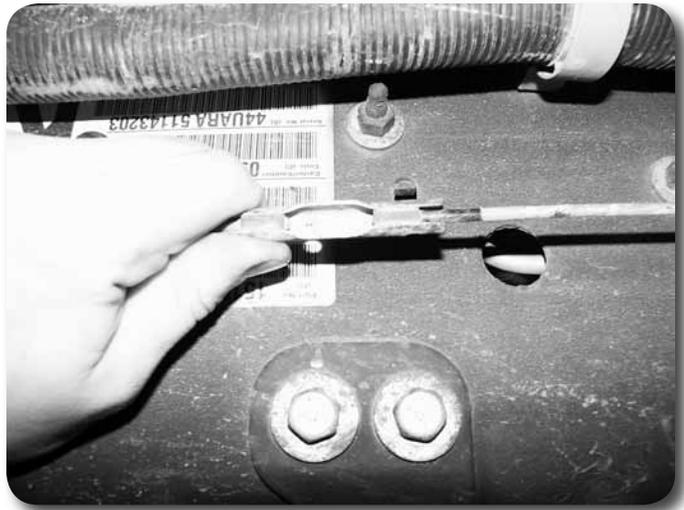

Figure 12
16. Separate the parking brake cable at the coupler just below the driver's side door **Figure 12**. Pull on the cable to gain slack and clamp it off at the front. Remove the front half of the cable from the coupler. There will either be a tab or dimple retaining the end of the cable in the coupler flatten out the tab or dimple to remove the end.